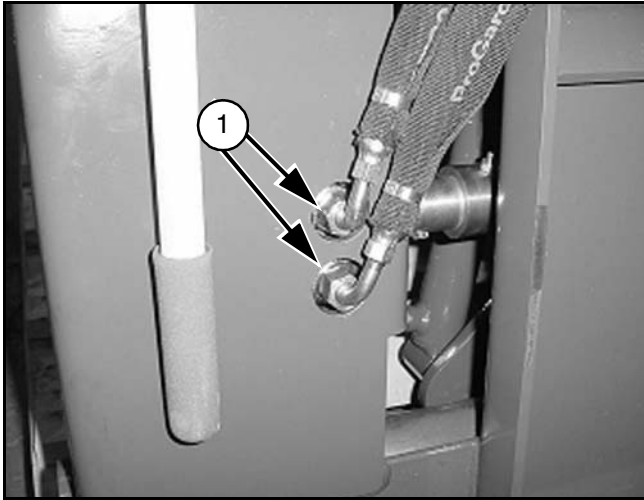

Figure 1
1. Remove and cap the motor hoses (1) shown in Figure 1.